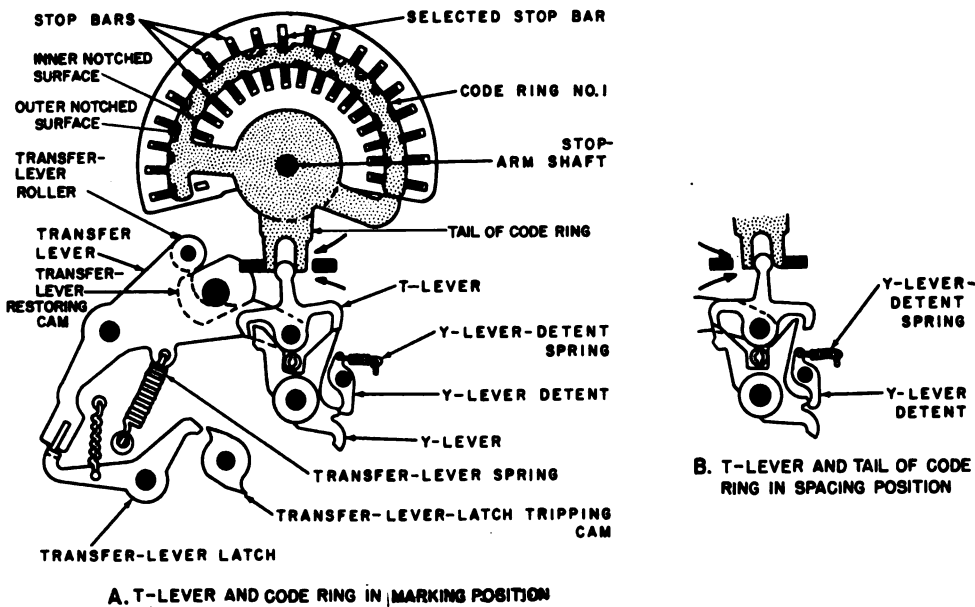
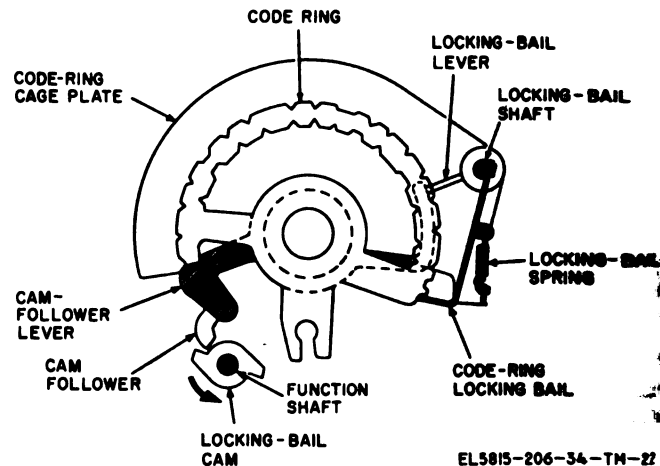
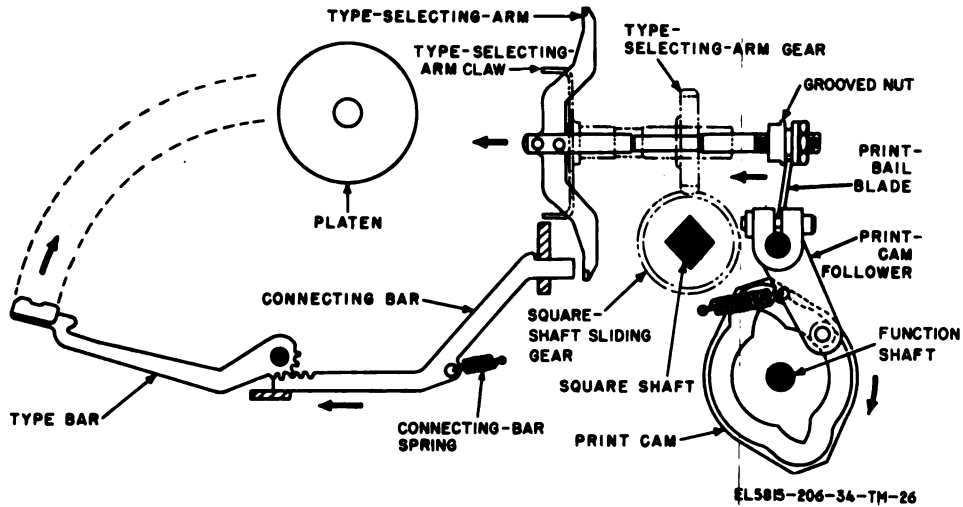
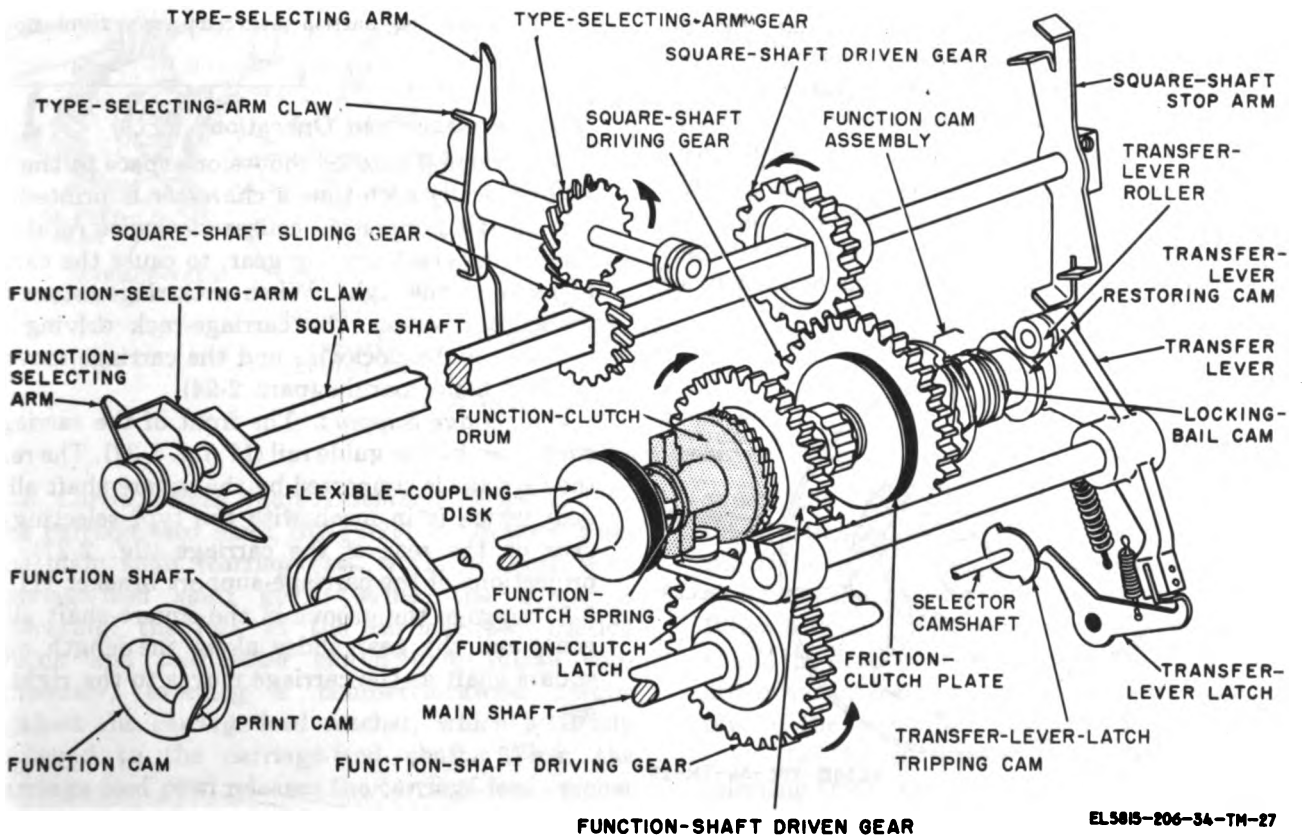

Figure 2-21. T-levers and code rings set to marking and spacing positions.
Figure 2-22. Code-ring locking mechanism (TT-4B/TG, TT-4C/TG, TT-335/TG, TT-537/G, TT-698A/TG, and TT-698B/TG).
Figure 2-26. Printing mechanism.
Figure 2-27. Mechanical power transfer from main shaft to function shaft and square shaft.
with, an associated Y-lever. The vertical arm of each T-lever is in engagement with a slot in the tail of an associated code ring. The five code rings (fig. 2-21) pivot around the stop-arm shaft. The code rings are moved to the marking and spacing positions as described in *a* and *b* below. During printing, the code rings of the TT-4B/TG, TT-4C/TG, TT-35/TG, TT-537/G, TT-698A/TG, and TT-98B/TG are locked in their selected positions as described in *d* below. The TT-4/TG and TT-698/TG does not include the code-ring locking feature.
transfer lever. The tension of the transfer-lever spring turns the transfer-lever clockwise and the T-levers move downward, against the upper arms of the Y-levers (fig. 2-21).
ring to pivot clockwise to the marking position (A, fig. 2-21).
(2) *Setting code ring to spacing position.* If a Y-lever is in the spacing (counterclockwise) position when the T-levers move downward, the left hand arm of its associated T-lever strikes the left hand arm of the Y-lever and the T-lever pivots clockwise, causing its associated code ring to pivot counterclockwise to the spacing position (B, fig. 2-21).
(1) During the transfer operation, the transfer-lever roller moves toward a low part of the transfer-lever restoring cam (fig. 2-21). Immediately after the transfer operation occurs, the restoring cam starts to turn, (2) below). A lobe of the restoring cam pushes the roller upward to cause the transfer lever to pivot counterclockwise slightly until it is latched by the transfer-lever latch.
(2) The transfer-lever restoring cam is fastened to one end of the function shaft (fig. 2-27). The function-shaft driving gear on the main shaft and the function-shaft driven gear on the function shaft rotate continuously when the motor is operating. The driven gear rotates freely on the function shaft and the function shaft does not turn while the Y-levers are being positioned. When the transfer lever moves the T-levers downward to accomplish the transfer operation, the function-clutch latch moves downward also, releasing an arm of the function-clutch drum. This action permits the function-clutch spring to push the function-clutch drum along the function shaft until the teeth of the drum are meshed with the teeth cut into the side of the rotating function-shaft driven gear. The clutch drum is keyed to the flexible-coupling disk, the disk is fastened firmly to the function shaft, and the function shaft rotates whenever the function-clutch drum is pushed against the function-shaft driven gear.
(3) When a lobe of the transfer-lever restoring cam pushes the transfer-lever roller upward (1) above), the function-clutch latch also moves upward, into the path of an arm of the function-clutch drum. When the arm of the drum strikes the roller of the function-clutch latch, the drum is cammed away from the teeth of the function-shaft driven gear, and the function shaft stops turning. The shaft remains stationary until another transfer operation occurs after the next code group is received.
occurs, the code-ring locking bail of the TT-4B/TG, TT-4C/TG, TT-335/TG, TT-537/G, TT-698A/TG, and TT-698B/TG locks the code rings in their selected positions to prevent movement of the code rings during the printing operation (para 2-21). The locking-bail cam on the function shaft (fig. 2-22) controls operation of the code-ring locking bail as described below.
| 2 | Transfer-lever latch releases transfer lever (fig. 2-21).                  |
| 4  | Transfer-lever moves five T-levers downward (fig. 2-21).   | Function-clutch latch moves downward, releasing function-clutch drum (fig. 2-27).   |
| 9  | Transfer-lever restoring cam on function shaft pivots transfer lever counterclockwise (fig. 2-21).                 | Lobe of locking-bail cam pivots cam-follower lever to move locking bail away from code rings (fig. 2-22).   |
| 10 | T-levers move upward, away from Y-levers.  | Function-clutch latch moves upward into path of arm on function-clutch drum (fig. 2-27).  |
*b. Stop-Bar Selection.* The inner and outer surfaces of the curved portion of each of the code rings are notched (fig. 2-21 and 2-22). The pattern of notches in each code ring differs from the notch pattern of the other four code rings. When the transfer operation occurs, each of the code rings is positioned clockwise or counterclockwise, and the five code rings form a groove in line with one of the stop bars. Pressure of the stop-bar spring causes the stop bar to move into the groove formed by the code
*b. Printing of Selected Character.* Printing occurs immediately after rotation of the type-selecting arm is halted (a above). A lobe of the print cam (fig. 2-26) causes the print-cam follower to pivot counterclockwise, causing the print-bail blade to move forward sharply. The print-bail blade is engaged in the groove of the grooved nut on the shaft of the type-selecting arm. The type-selecting arm pushes the aligned connecting bar forward to cause the type bar to strike against the platen. The roller of the print-cam follower then moves to a low portion of the print cam, causing the type-selecting arm to return to the rearward position. The print cam is firmly fastened to the function shaft (fig. 2-27) and turns one revolution each time the transfer-lever latch tripping cam trips the transfer lever (para 2-19b).
c. **Square-Shaft Rotation.** The square shaft does not turn while the code impulses are being received in the page printer and the Y-levers are being positioned. When the last Y-lever is positioned, the transfer-lever-latch tripping cam (fig. 2-27) trips the transfer-lever latch to start the transfer operation, and the function-clutch latch moves downward (para
| 1 | As a result of transfer operation (para 2-19), selected stop bar moves into groove in code rings; function shaft starts 1/2 revolution (fig. 2-27).   |
| 2 | Square-shaft stop arm and type-selecting arm. Print cam starts 1/2 revolution (fig. 2-26).  |
| 8 | Print cam and function shaft complete 1/2 revolution (fig. 2-27).   |
a. *Carriage Support.* The front of the carriage is supported by the guide rail (17, fig. 3-37). The rear of the carriage is supported by the square-shaft sliding gear which is in mesh with the type-selecting-arm gear on the rear of the carriage (fig. 2-27). Two projections of the carriage-support bracket (11, fig. 3-37) engage the groove in the square-shaft sliding gear, and the gear slides along the length of the square shaft as the carriage moves to the right and left.
square shaft (fig. 2-27) and rotates and stops with the square-shaft stop arm. The function cam, on one end of the function shaft, starts to turn  $\frac{1}{2}$  revolution each time the transfer operation occurs (para 2-19). When a lobe of the function cam pushes the roller end of the function-cam follower (fig. 2-30) the upper arm of the follower pushes the function-selecting arm toward the punch-bar guide block.